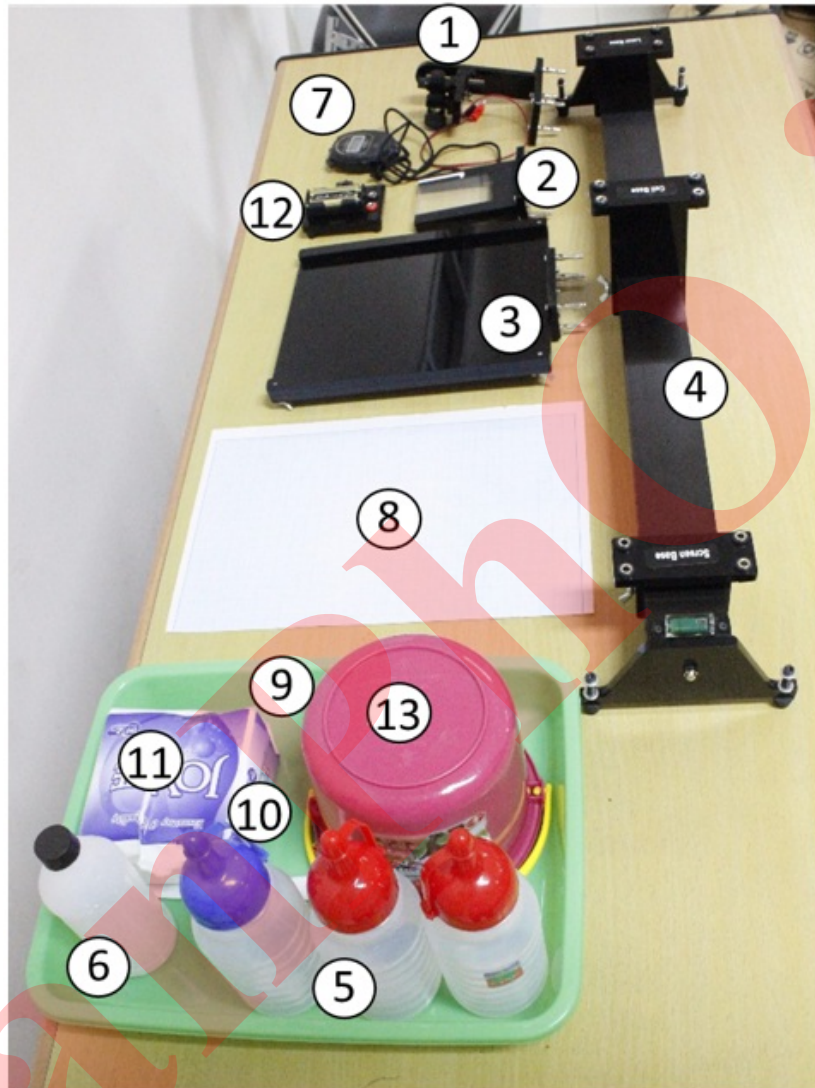

Figure 1. Materials for this experiment.
- In order to obtain the deflected laser trace on the screen (as in Figure 2b) you must assemble all the components depicted in Figure 1 by following the schematic shown in Figure 2(a).